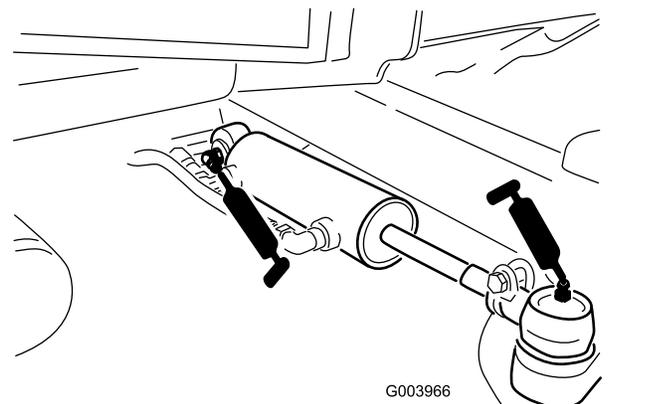

Figure 81
- Steering-cylinder ball joints (2) (Figure 81)